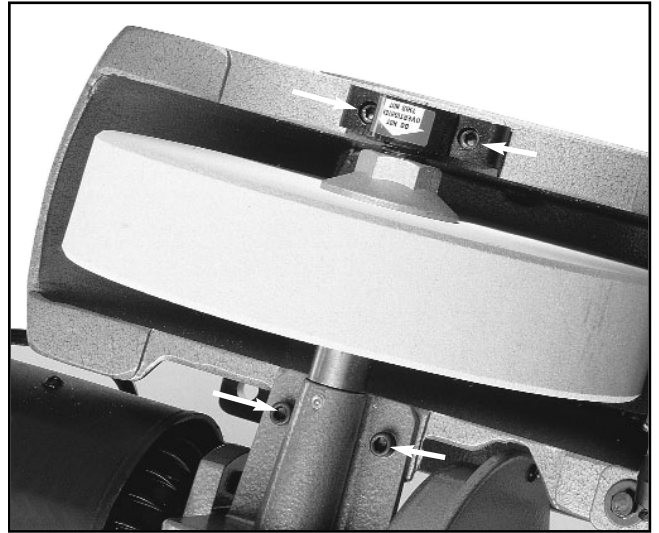

Figure 10. Changing the large wheel.
1. Remove the four cap screws which secure the shaft to the reservoir. **Figure 10.**